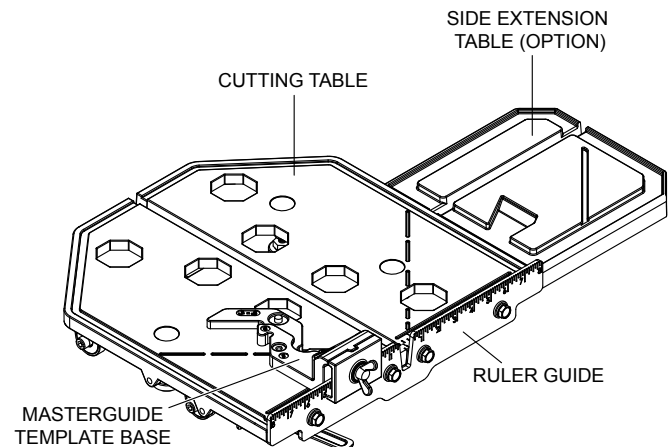

Figure 12. Cutting Table
- The ruler guide has inches marked along the top to allow convenient measurements and to promote precision cuts. See Figure 12.